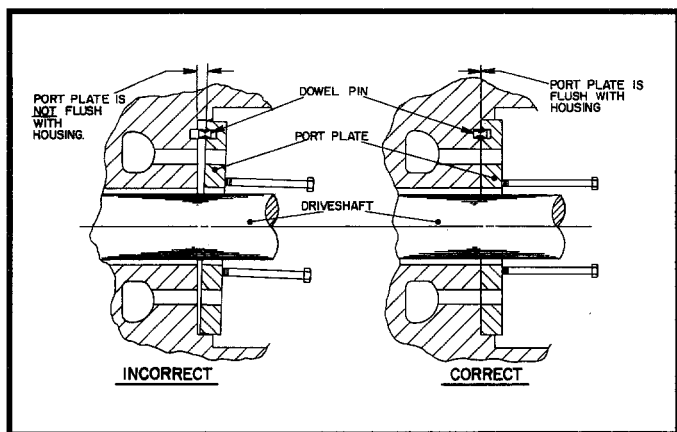

Figure 7. Port-Plate Installation (509464 sh. 2).
See Figures 7 and 8. Apply a light coating of hydraulic fluid to mating faces of port-plate assembly and wear-plate. Install 1/4-20 bolts, 3" or longer, into two holes provided near the center of port-plate and use them to guide port-plate into front housing (51), using dowel pin (42) to locate. Port-plate assembly (41) must be fully seated. Check as follows: Press down firmly on side of port-plate. Using a rubber mallet, tap lightly on opposite side - notice resulting sound. A clicking or rattling sound indicates port-plate is not seated - i.e.; rocking, wobbling, etc. A solid sounding "thud" indicates port-plate assembly is seated properly. Remove and reseal, if necessary.
**NOTE: DO NOT apply grease to mating faces of port-plate assembly (41) and wear-plate (40), that come in contact with each other.**
See Figures 7 and 8. Apply a light coating of hydraulic fluid to mating face of port-plate and wear-plate (40), that come in contact with each other. Install bolts, 3" or longer into two (2) holes provided near the center of port-plate. Size 170 is tapped for 1/4-20. Sizes 250 and 320 are tapped for 5/6-18. Use bolts to guide port-plate into front housing (51). Use dowel pin (42) to locate properly. Port-plate assembly (41) must be fully seated. Check as follows: Press down firmly on side of port-plate. Using a rubber mallet, tap lightly on opposite side - notice resulting sound. A clicking or rattling sound indicates port-plate is rocking, wobbling, etc. A solid sounding "thud" indicates port-plate is seated properly. Remove and reseal, if necessary.